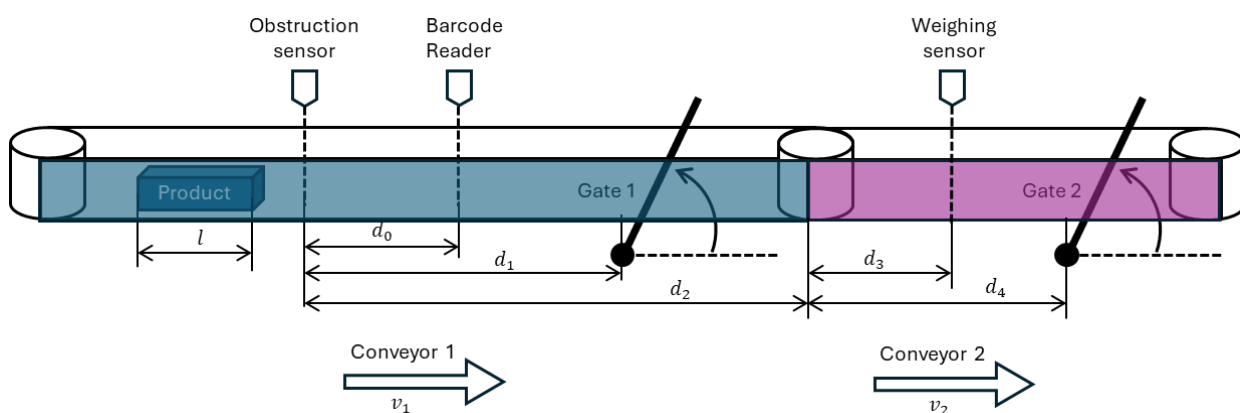

Fig.1 Conveyor system
As illustrated in Figure 1, the system consists of two cascading conveyor belts operating at different speeds to perform comprehensive quality control of products. Conveyor 1 operates at a constant speed of $v_1 = 1 \text{ m/s}$, while Conveyor 2 runs at $v_2 = 0.8 \text{ m/s}$. Due to the slower speed of Conveyor 2, there is a potential risk of product collision that must be managed by the control system.
1. An obstruction sensor detects, shown in Figure 1, product presence and enables length measurement through duration monitoring. Products with lengths ranging from 4.8 cm to 5.2 cm (inclusive) are considered acceptable.
As shown in Figure 1, the dual-stage conveyor system implements multiple quality control checkpoints with specific timing and safety requirements. The following parameters are critical for the correct operation of the system show in Figure 1: